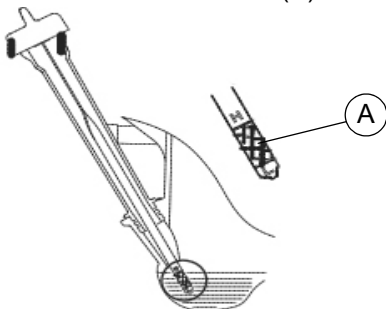

Figure 4-15. Oil Range
8. See Figure 4-15. Reinsert dipstick into oil filling hole without screwing it in and verify oil level is in the crosshatched section (A).